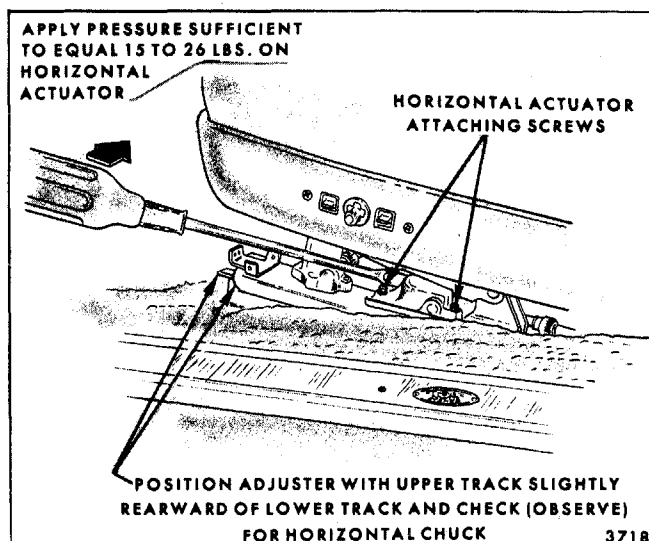

Fig. 9-41-Horizontal Actuator Adjustment - Power Six-Way Seat
2. Loosen horizontal actuator attaching screws. Using a large screwdriver, inserted as shown in Figure 9-41, apply outward pressure on horizontal actuator (sufficient to equal 15 to 25 pounds on horizontal actuator) and at the same time energize horizontal switch to move seat fore and aft slightly; this helps seat the horizontal actuator pinion gear teeth tight to the lower track rack gear teeth and eliminate any free play between gear teeth. While maintaining